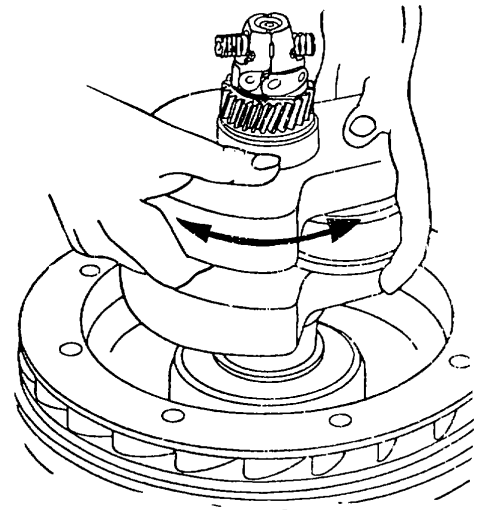

Figure A-76. Installation of New Crankshaft or Flywheel
b. Installing a New Crankshaft or Fly wheel: Before installing a new crankshaft or flywheel, the crankshaft taper must be ground into the tapered bore of the flywheel. Apply grinding compound to the crankshaft taper. Slide the crankshaft into the flywheel bore. Rotate the crankshaft in the flywheel bore until a good finish is obtained. Thoroughly wash away all grinding compound with diesel fuel or gasoline. (Figure A-76).